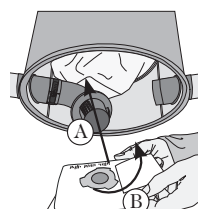

figure 8
4. Ensure adequate sealing by inserting bag as far as the retention ring. (**figure 8-A**). Rotate bag 20° (**figure 8 - B**) to ensure tabs on bag adaptor are no longer aligned with the slots in the bag collar..